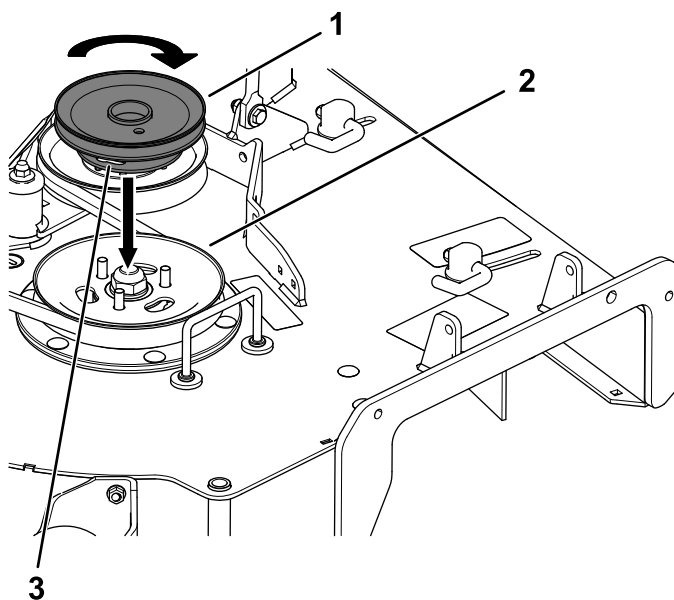

Figure 5
2. Align the new pulley assembly so that the openings fit over the pulley studs (Figure 5).